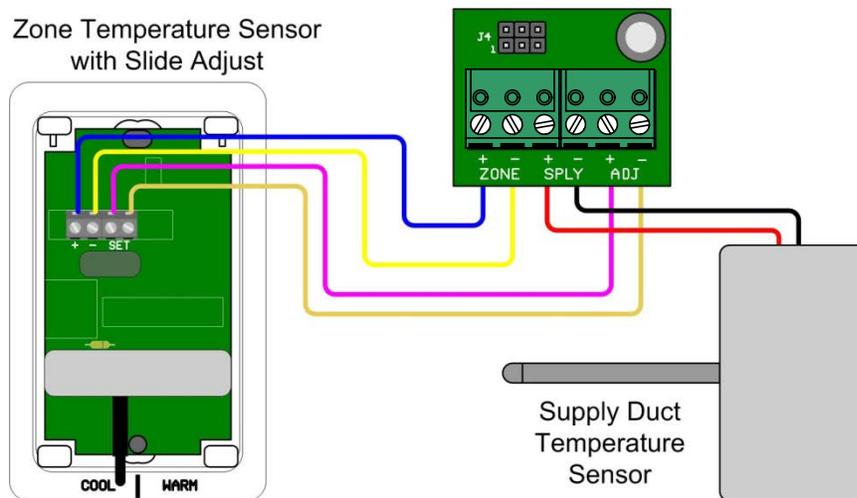

Figure 5: Connecting Zone & Supply Sensor Input
Step 1: Connect sensor + terminal to the RTU Zone + input and sensor – to RTU Zone – input (Figure 5). The recommended wiring is 18 AWG twisted shielded pair.
Step 2: Connect the left side of the Sensor SET to the + of the RTU ADJ and the right side of the – RTU ADJ (Figure 5). The recommended wiring is 18 AWG twisted shielded pair.
Step 1: The sensor is not polarity sensitive so connect one lead from the supply sensor to the + of the RTU SPLY input and the other to the – of the RTU SPLY input (Figure 5). The recommended wiring is 18 AWG twisted shielded pair.